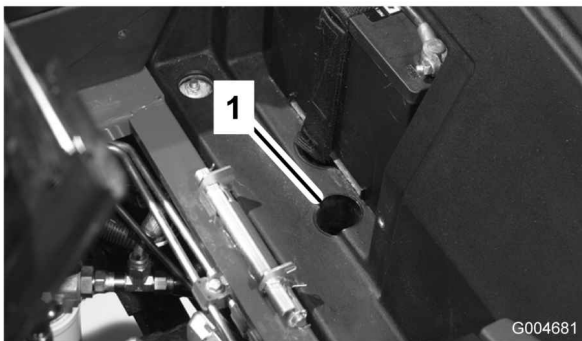

Figure 28
1. Raise the seat and remove the battery cover. The bypass valve is located in front of the battery (Figure 28).